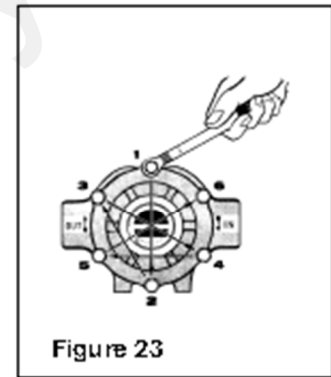

Figure 23
3. Turn pump over, line up bolt holes and replace assembly bolts. Alternately and evenly tighten the bolts as shown (Figure 23). NOTE: After bolts have been tightened, check to see if rotor is centered in pump case. Try to turn the pump shaft, using a crescent wrench on the shaft as a lever.